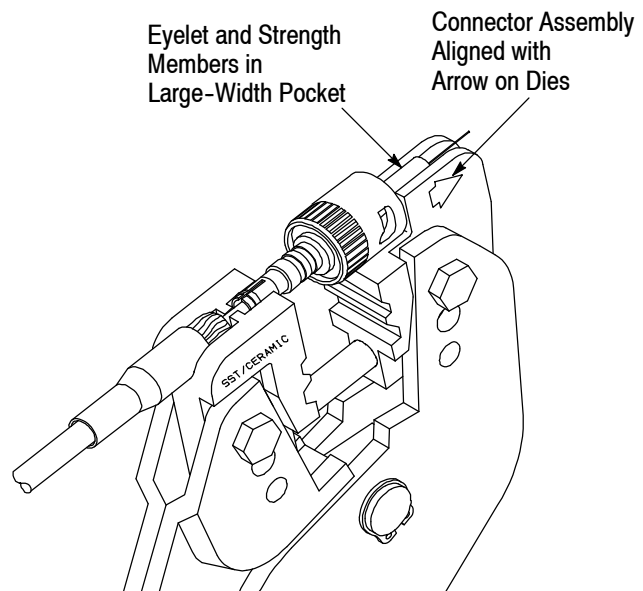

Figure 9
5. Gently close the dies of the tool until you hear one click from the ratchet. Position the connector assembly in the dies so that the shoulder of the die is located between the plunger and the folded-back strength members. Make sure that the connector assembly is aligned with the direction of the arrow on the dies, and the eyelet and strength members are positioned in the large-width pocket. See Figure 9.